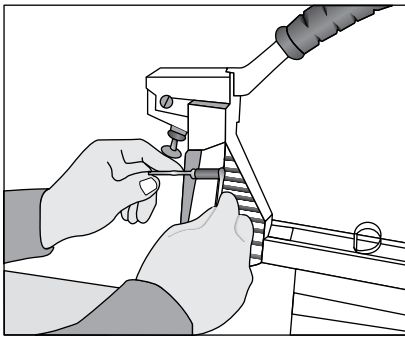

Figure 17
1. Loosen the screws and nut with a 8mm spanner wrench and a 4 mm Allen wrench. (See Figure 17)